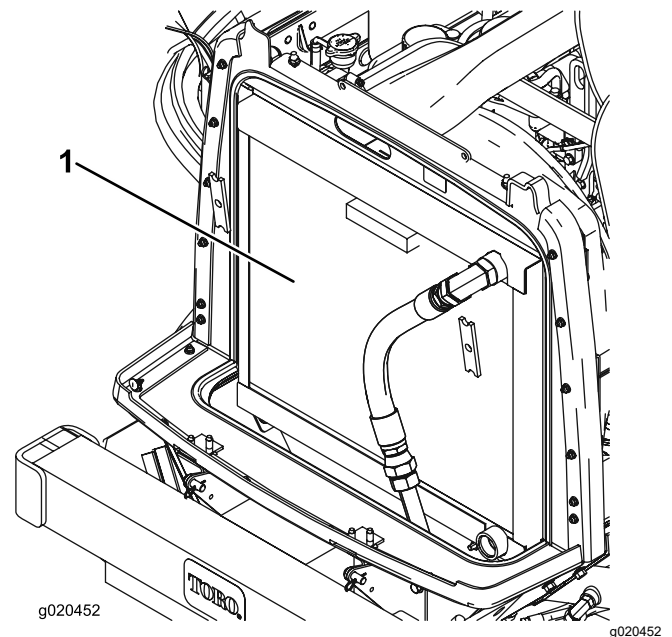

Figure 77
3. Clean both sides of the radiator/oil cooler area thoroughly with compressed air (Figure 77).